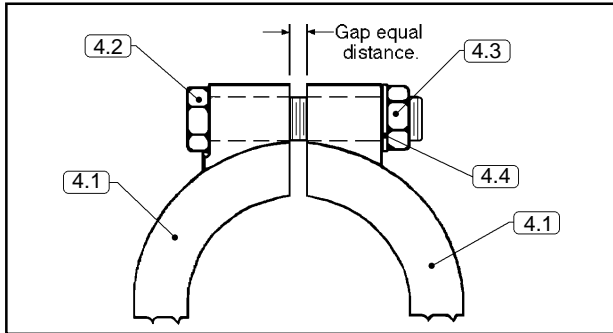

Figure 4: Clamp Arrangement
4. Reference Figures 4 through 9 for identification of item numbers.
5. All item numbers with respect to body assembly (BA) will be in parenthesis and not underscored; i.e. (1). All item numbers with respect to the actuator and positioner assemblies will be in parenthesis and underscored; i.e. (1).
1. Place body (1) back into vise oriented for vertical plug/stem (3 or 10).
2. Place new gasket (7) onto body (1) flange.
3. Carefully insert new spring-assisted stem seal rings (9) back into the bonnet's (2) grooves. *See Figure A.*
4. Insert the threaded upper end of the plug/stem (3 or 10) through the lower bonnet (2) stem seal ring (9), ensuring that the threaded surface does not "nick" the surface of either the lower or upper stem seal rings (9). Continue the plug/stem (3 or 10) insertion until through the upper stem seal ring (9).
5. Set bonnet (2) with inserted plug/stem (3 or 10) onto the flange of the body (1). Lower plug/stem (3 or 10) until it touches the body (1) seat. Press down firmly on the plug/stem (3 or 10) upper end.
6. Re-position clamps (4.1), bolts (4.2), washers (4.4), and nuts (4.3) around the body (1) to-bonnet (2) joint. Hand-tighten the clamp nuts (4.3) a few revolutions in an alternating pattern. Align matchmarks. Using both hands
around the Tri-Clamp[®], push towards the valve's center. Ensure proper alignment of body (1) with bonnet (2) by checking OD of flanges. Finger-tighten clamp nuts (4.3). **NOTE:** Gap between clamp (4.1) halves should be equal in size. See Figure 4.